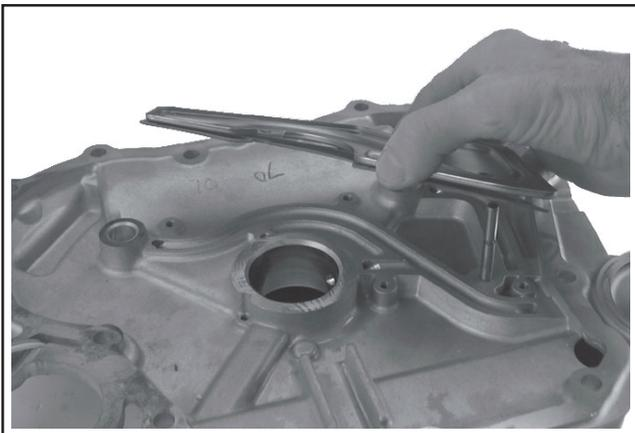

Figure 8-38. Removing Oil Passage Cover and Gasket.
2. Remove the six screws securing the oil passage cover to the closure plate. Remove the cover and gasket. See Figure 8-38.